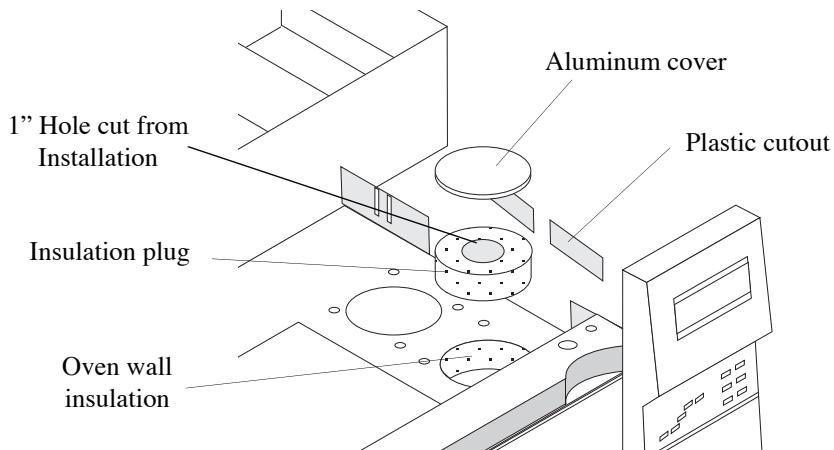

Figure 3.3. Preparing the Agilent GC's detector port
6. Remove the circular, aluminum detector port cover and the circular insulation plug from the desired mounting position in the GC's detector area (refer to Figure 3.3). Set the insulation plug aside for later use.
10. Remove the plastic cutout to the right of the selected detector port (refer to Figure 3.3).